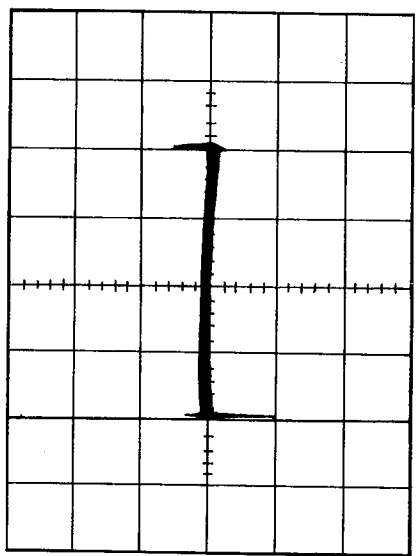

Figure 6. Residual Output of Analyzer Showing Clipping
7. Adjust the controls of distortion analyzer, if required, to obtain an oscilloscope display similar to that shown in Figure 6.